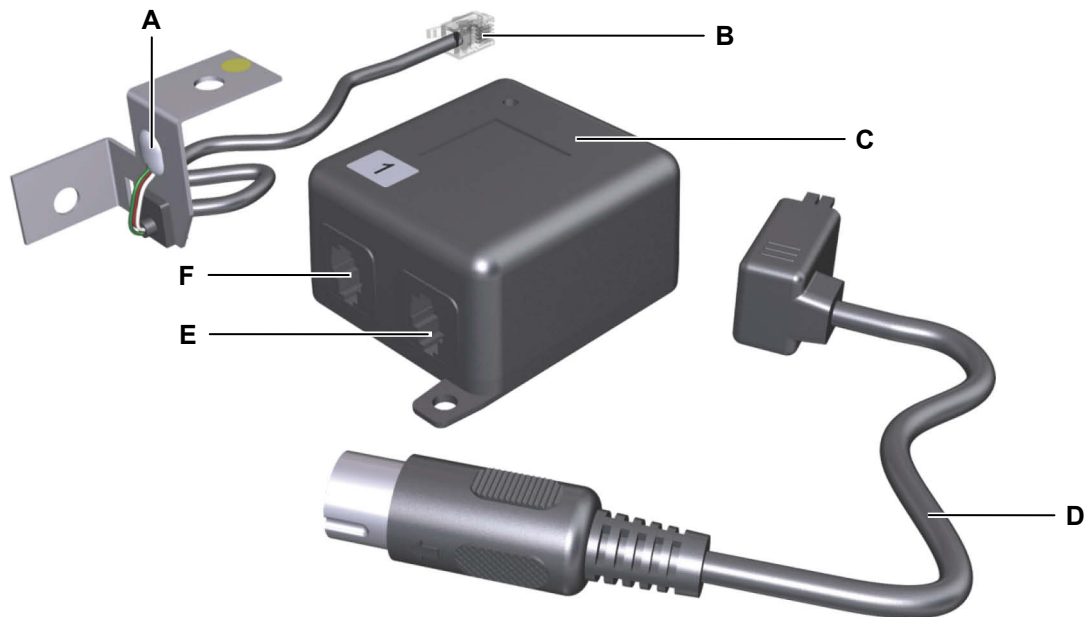

Figure 40 Sensor unit
- ▶ The sensor is attached to both the table frame and the tabletop. The contact point with the tabletop is marked with a yellow dot, as shown in Figure 40.
- 5 Connect the sensor unit's cable to the processor (port F in Figure 40).
- 6 If a second sensor is to be connected: Connect the second sensor unit's cable to the processor (port E in Figure 40).